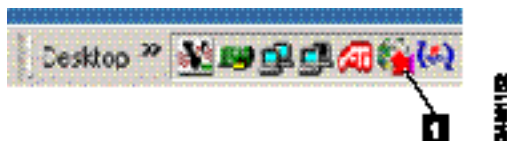

Figure 2-35 InCD Icon (Unformatted CD)
- a. Locate the *InCD* icon (1) at the right side of the task bar at the Windows desktop (Figure 2-35). The icon is indicated by a red down arrow.